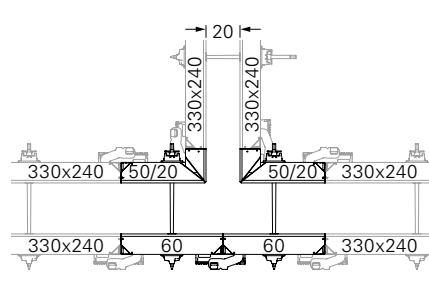

Fig. C4.03
- Wall thickness 20: Fig. C4.03